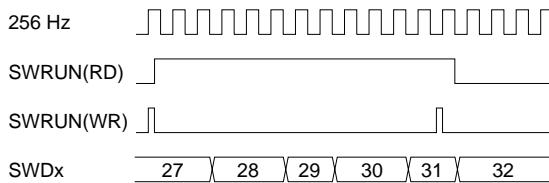

Fig. 5.10.5.1 Timing chart of RUN/STOP control
(1) The stopwatch timer is actually made to RUN/STOP in synchronization with the falling edge of the 256 Hz signal after writing to the SWRUN register. Consequently, when "0" is written to the SWRUN, the timer shifts to STOP status when the counter is incremented "1". The SWRUN maintains "1" for reading until the timer actually shifts to STOP status. Figure 5.10.5.1 shows the timing chart of the RUN/STOP control.